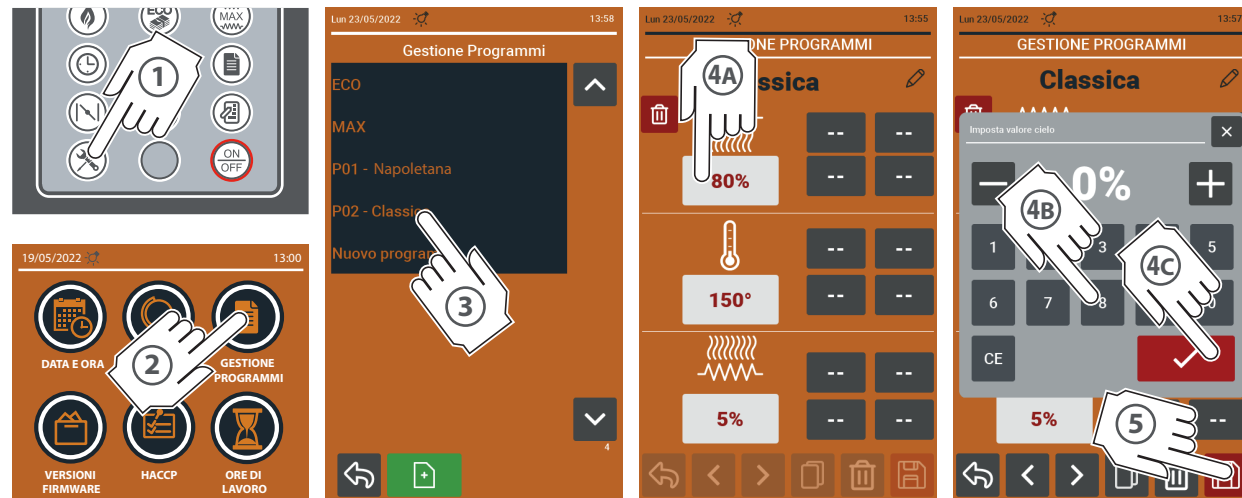

Fig.29
► Fig.29
- ① Touch the **SERVICE** icon (with the oven in stand-by).
- ② Touch the **PROGRAM MANAGEMENT** icon.
- ③ Touch the **NAME** of the recipe you wish to modify (in the example "Classic").
- ④ Change the values as usual. Confirm with  or cancel with  the entries made.
- ⑤ Save the recipe with the **DISC**  symbol.